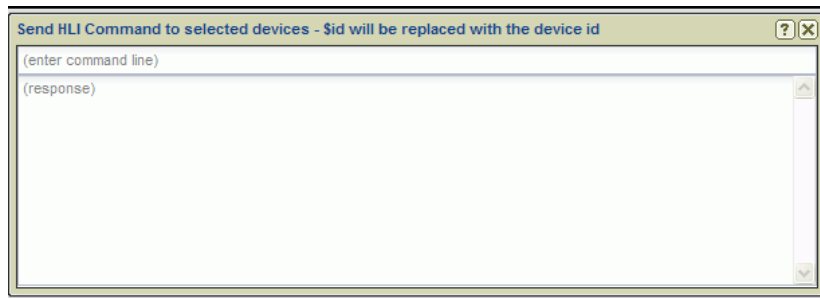

Figure 60. HLI Command Window
Select this option (see figure 57, ④) to open a dialog box for sending High Level Interface (HLI) command strings to VN-Matrix devices (see figure 60).